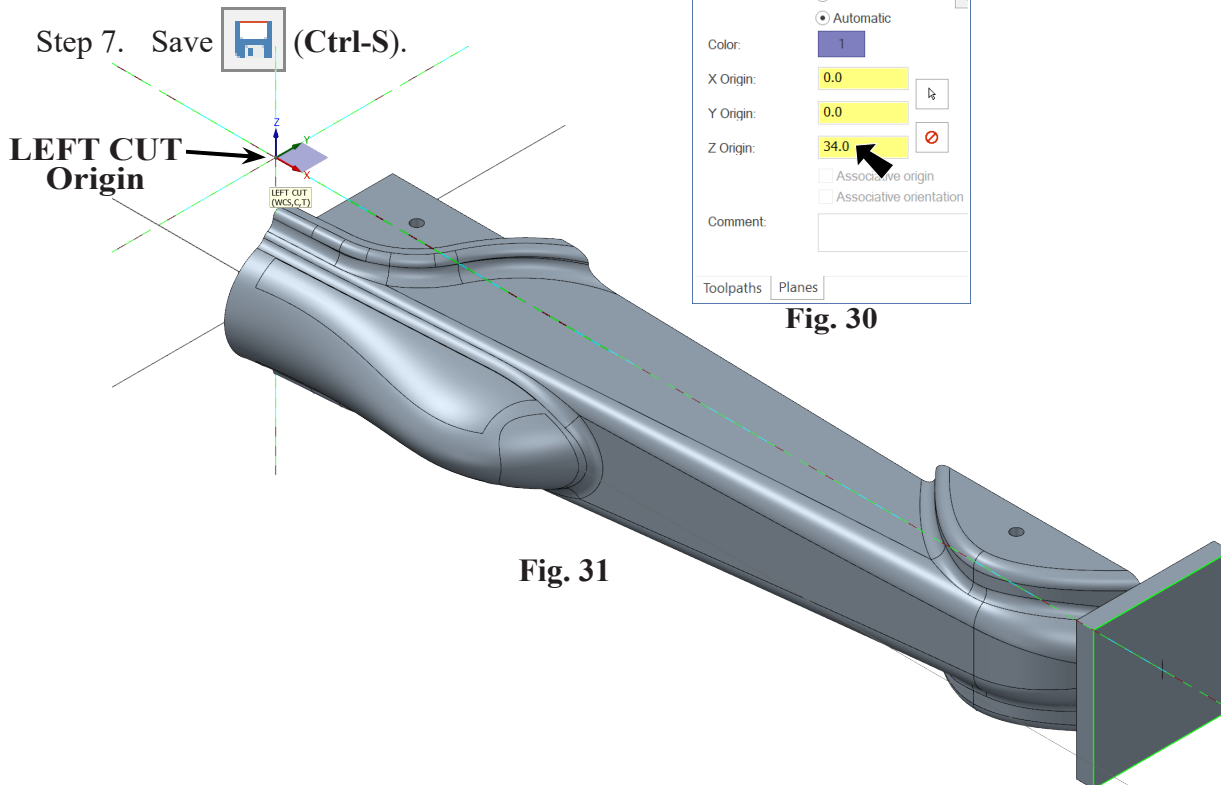

Fig. 31
Step 6. Confirm **LEFT CUT** Origin, **Fig. 31**.